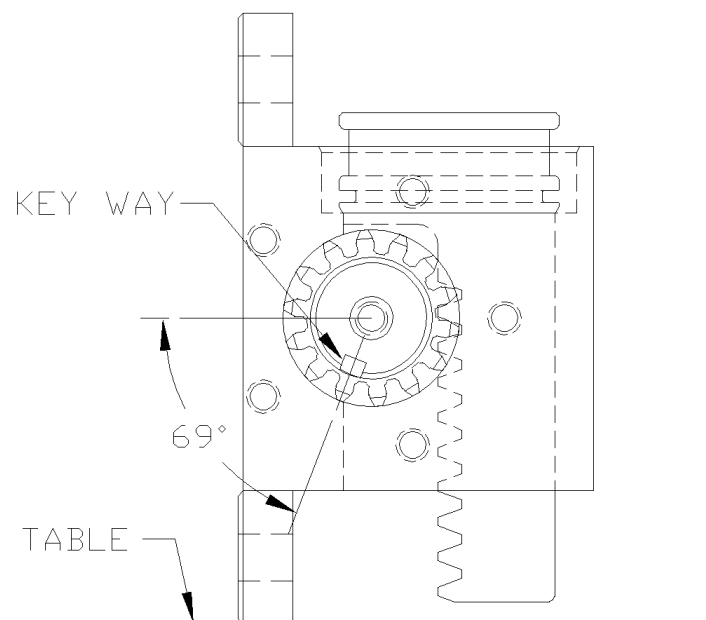

Figure 14.
6. Check the position of the racks in the pinion by making sure both racks seat against the actuator body at the same time and also when the racks are seated against the body, the key ways on the pinion shaft should be facing down toward the table and mounting flanges on the actuator body as shown in Figure 14.